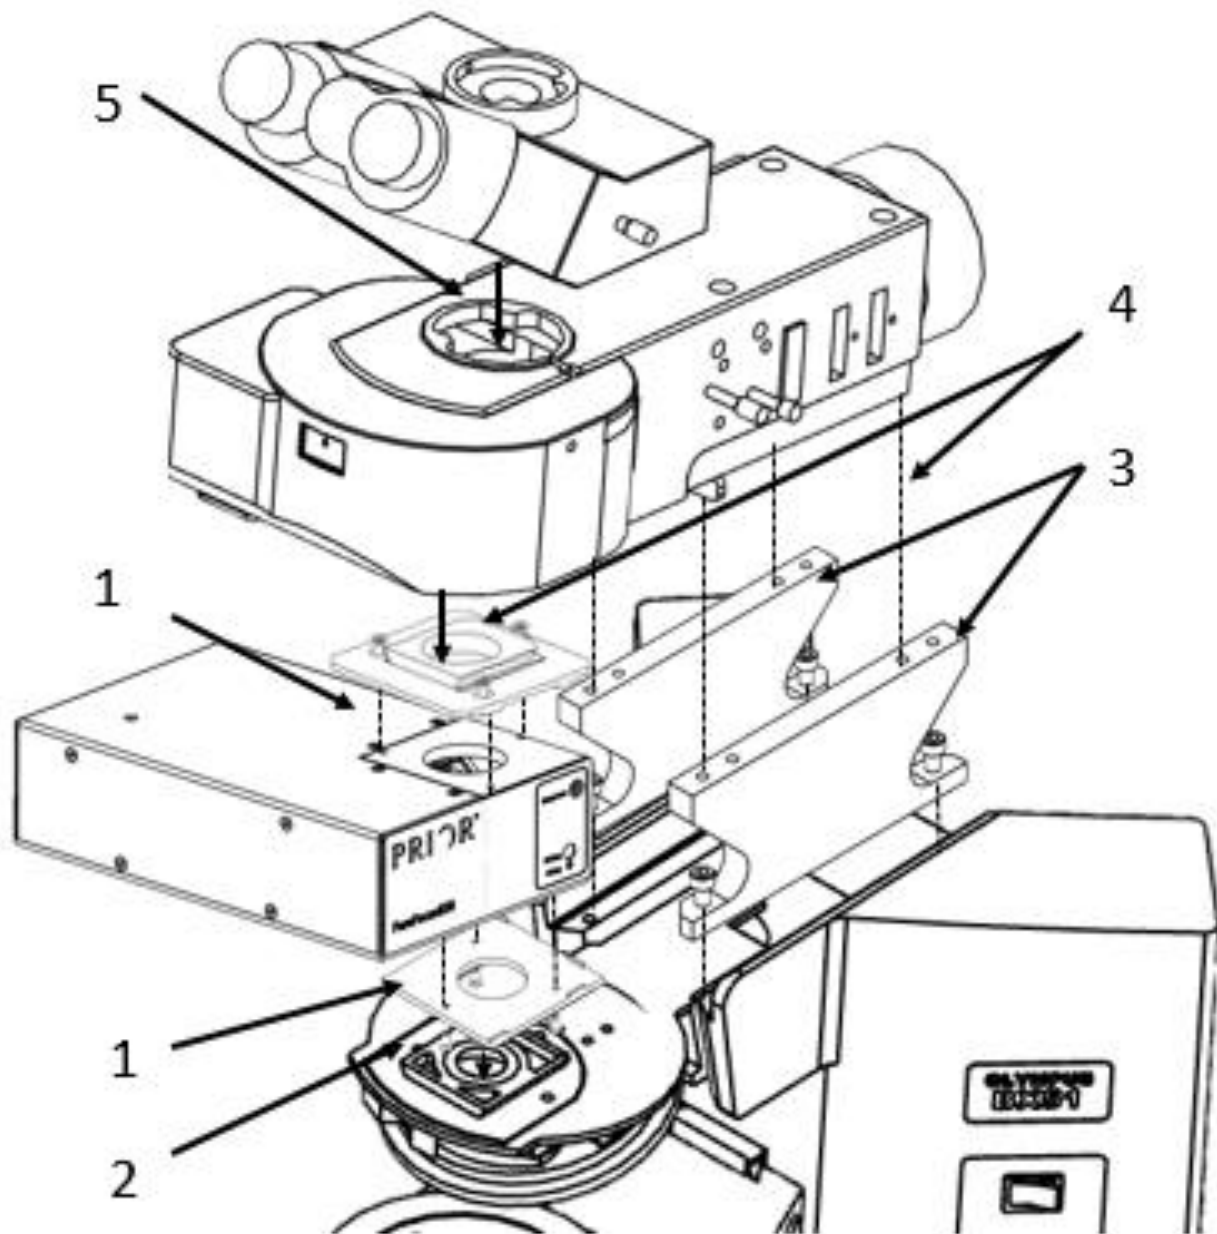

Figure 4: Attaching the Filter turret and the eyepiece on top.
4. Slide the fluorescence turret on the upper dovetail flange (PF551) and fasten it using the grub screw on the fluorescence turret. Fasten the screws on the turret onto the spacers as shown in Fig 4.